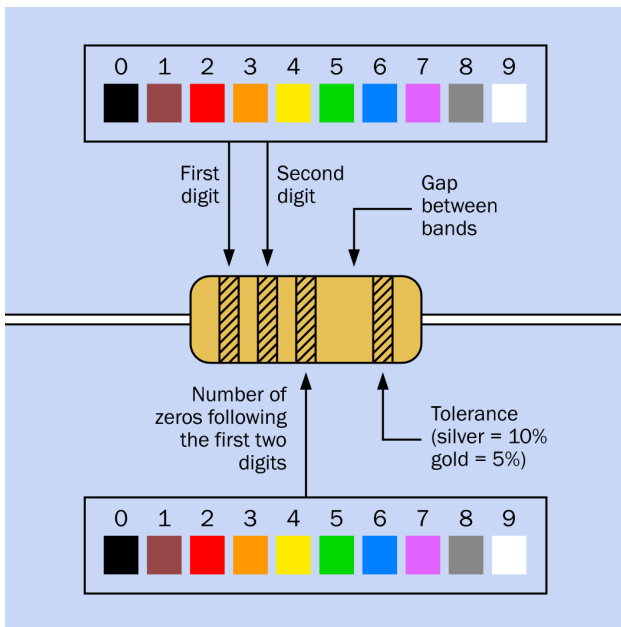

Figure 1-43 The coding scheme that shows the value of a resistor. Some resistors have four stripes on the left instead of three, as explained in the text.
However, most resistors are color-coded with stripes. **Figure 1-43** shows the coding scheme.
- The colors of the first two stripes, from left to right, tell you the first two digits in the value of the resistor. The color of the third stripe from the left tells you how many zeros follow the two numbers. The color values are shown in **Figure 1-43**.